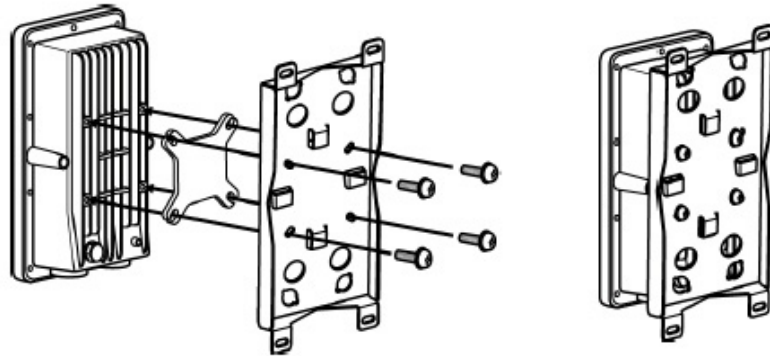

Figure 5-6. Mounting the Power Module
Attach the mounting plate, to the Power Module, using the M6x20 screws as shown in Figure 5-6. Then follow:
1. Attach the mounting plate to the router, as shown in Figure 5-6.
1. Attach the mounting plate to the power module, as shown in Figure 5-6 on page 36.